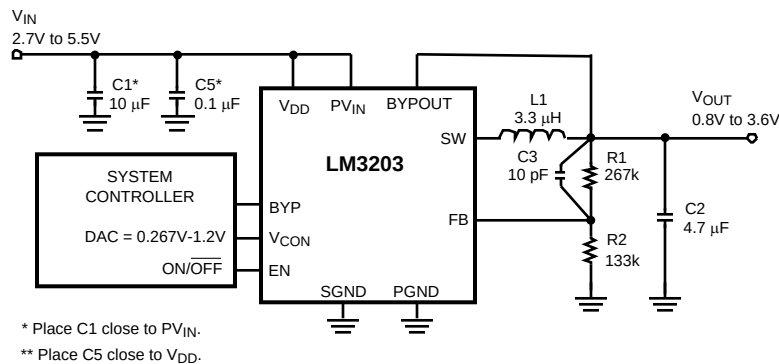

Figure 31. Typical Operating System Circuit where baseband controls the output voltage using a DAC
- (1) All voltages are with respect to the potential at the GND pins.
- (2) Min and Max limits are specified by design, test, or statistical analysis. Typical numbers are not ensured, but do represent the most likely norm.
- (3) The LM3203 is designed for mobile phone applications where turn-on after power-up is controlled by the system controller and where requirements for a small package size overrule increased die size for internal Under Voltage Lock-Out (UVLO) circuitry. Thus, it should be kept in shutdown by holding the EN pin low until the input voltage exceeds 2.7V.
- (4) Over-Voltage protection (OVP) threshold is the voltage above the nominal V_{OUT} where the OVP comparator turns off the PFET switch while in PWM mode. The OVP threshold will be the value of the threshold at the FB voltage times the resistor divider ratio. In the Figure 31, $100\text{mV (typ.)} \times ((267\text{K} + 133\text{K}) \div 133\text{K})$.
- (5) Shutdown current includes leakage current of PFET and Bypass FET.
- (6) Electrical Characteristics table reflects open loop data ($FB=0\text{V}$ and current drawn from SW pin ramped up until cycle by cycle current limit is activated). Refer to Typical Performance Characteristics (Open/Closed Loop Current Limit vs Temperature (PWM Mode) curve) for closed loop data and its variation with regards to supply voltage and temperature. Closed loop current limit is the peak inductor current measured in the application circuit by increasing output current until output voltage drops by 10%.
- (7) Bypass FET current limit is defined as the load current at which the FB voltage is 1V lower than V_{IN} .
(Circuit in Figure 31, $PV_{IN} = V_{DD} = EN = 3.6V$, $BYP = 0V$, $T_A = 25^\circ C$, unless otherwise noted)
Referring to Figure 31, the LM3203 operates as follows. During the first part of each switching cycle, the control block in the LM3203 turns on the internal PFET (P-channel MOSFET) switch. This allows current to flow from the input through the inductor to the output filter capacitor and load. The inductor limits the current to a ramp with a slope of around $(V_{IN} - V_{OUT}) / L$, by storing energy in a magnetic field. During the second part of each cycle, the controller turns the PFET switch off, blocking current flow from the input, and then turns the NFET (N-channel MOSFET) synchronous rectifier on. In response, the inductor's magnetic field collapses, generating a voltage that forces current from ground through the synchronous rectifier to the output filter capacitor and load. As the stored energy is transferred back into the circuit and depleted, the inductor current ramps down with a slope around V_{OUT} / L . The output filter capacitor stores charge when the inductor current is going high, and releases it when inductor current is going low, smoothing the voltage across the load.
The LM3203 features a pin-controlled variable feedback voltage. It can be programmed for an output voltage from 0.8V to 3.6V by setting the voltage on the V_{CON} pin, as in the formula below (Refer to Figure 31). In this scheme the output voltage is directly proportional to V_{CON} .
When V_{CON} is between 0.267V and 1.20V, the output voltage will follow the above equation. For example, the V_{OUT} is proportionally 3 times of V_{CON} when external resistor dividers are used as in Figure 31.